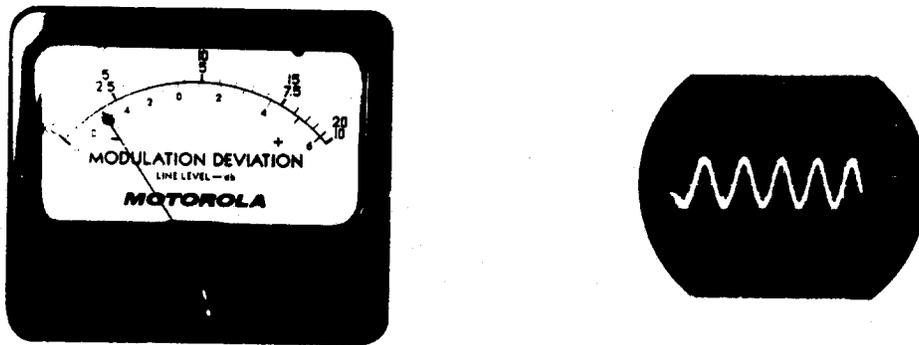

Figure 1.
e. Adjust the vertical gain of the oscilloscope so that the total recovered audio pattern occupies some convenient height, e.g., four small squares (12 squares in a wide-band system). The split-channel case is shown in figure 1.